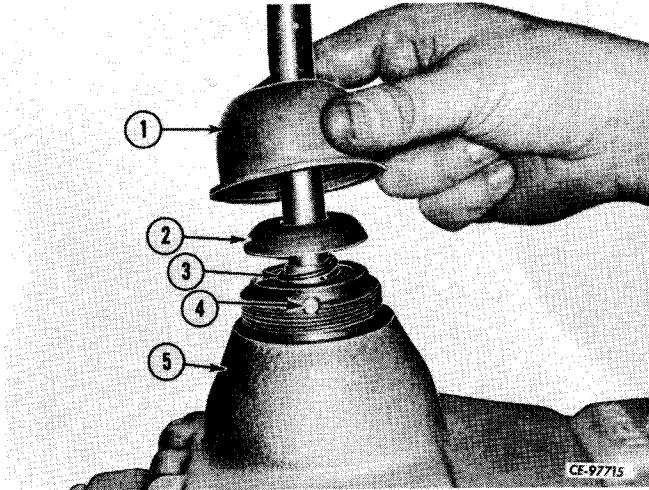

Figure 4-21
Loosen cap housing (1, Fig. 4-21), spring washer (2) and spring (3) from housing (5). Remove pin (4) from housing and remove lever assembly from housing.